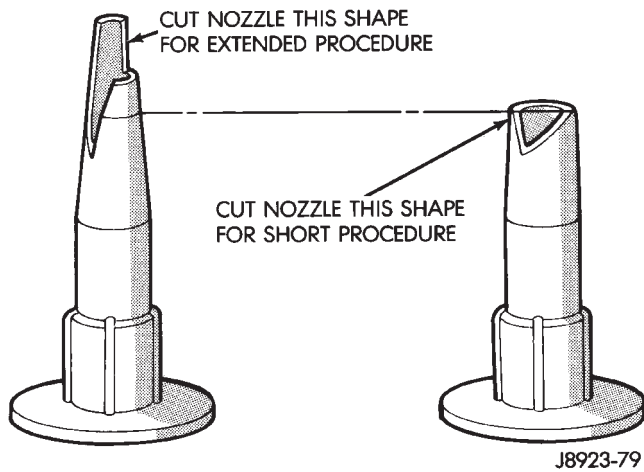

Fig. 7 Applicator Nozzle Preparation
- (10) Cut the urethane adhesive applicator nozzle according to the instructions in Figure 7.
- (11) Apply a 3-mm (1/8-in) diameter bead of urethane to the surface area.
(10) Cut the urethane adhesive applicator nozzle according to the instructions in Figure 7.
(11) Apply a 3-mm (1/8-in) diameter bead of urethane to the surface area.